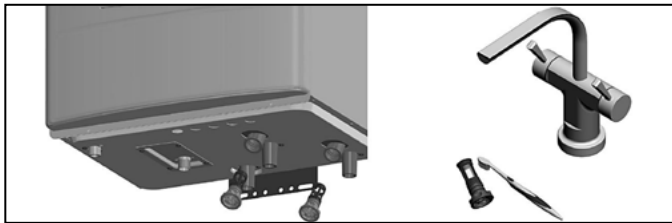

Figure 71 - Draining the Water Heater; Cleaning the Filter
5. Remove the cold water inlet filter. Then clean it with a toothbrush and clean running water. See Figure 71.